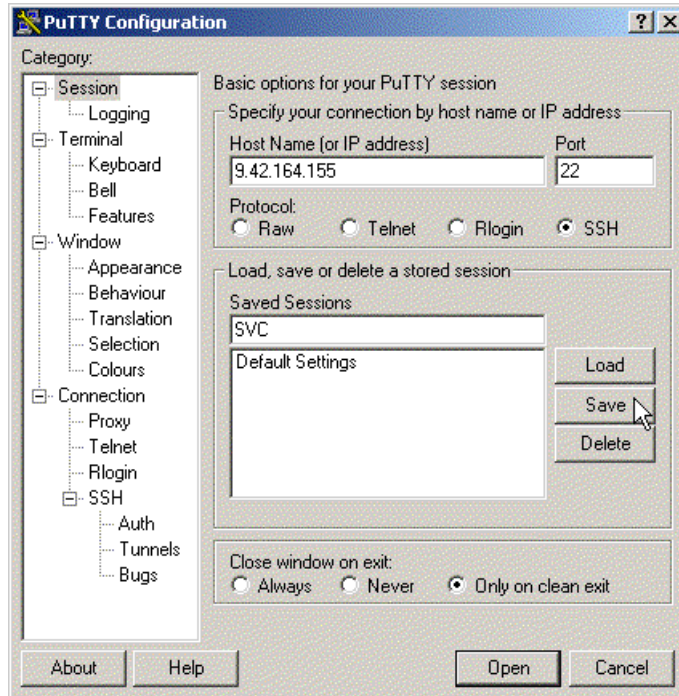

Figure 5-3 PuTTY Configuration: Saving a session
9. In the right panel, follow these steps as shown in Figure 5-3: